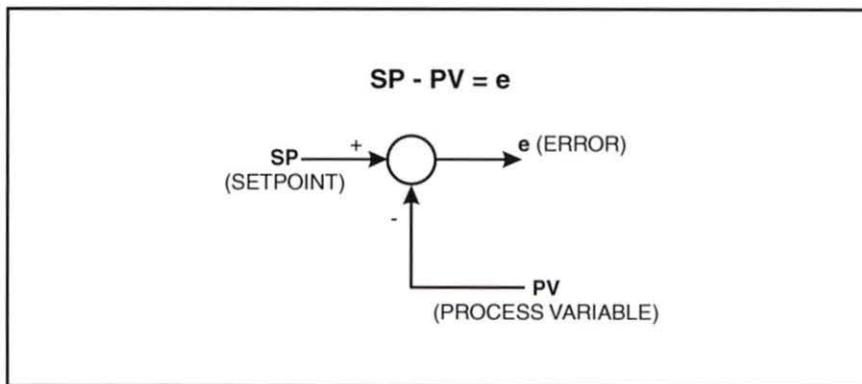

Figure 3. Circle Diagram Representing PV, SP, and Error
A circle, often referred to as a summing junction, represents the comparison of two signals. The polarity of the signals is indicated outside the circle, as figure 3 shows. This comparison is most often an addition or subtraction of the signals.
Notice in figure 3 that the setpoint (SP) enters the circle on the left side. The plus sign near the line where it enters indicates that SP is a positive variable. The process variable (PV) enters the circle on the bottom and has a negative polarity. The output of this block is the error signal, indicated by the small “e” symbol. Taking the visible information and combining it gives you the equation for this block, $SP - PV = e$.